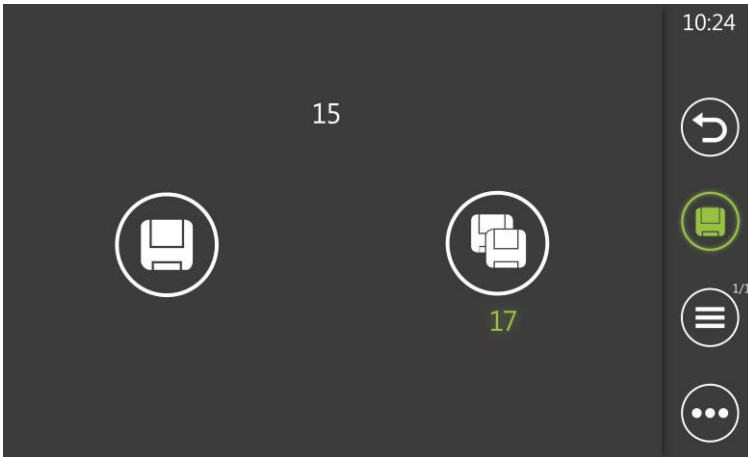

Fig. 18: Saving dialogue for a modified/duplicated cooking program
- The user can overwrite the current program number (e.g. 15) if he wishes to continue saving (fig. 18)